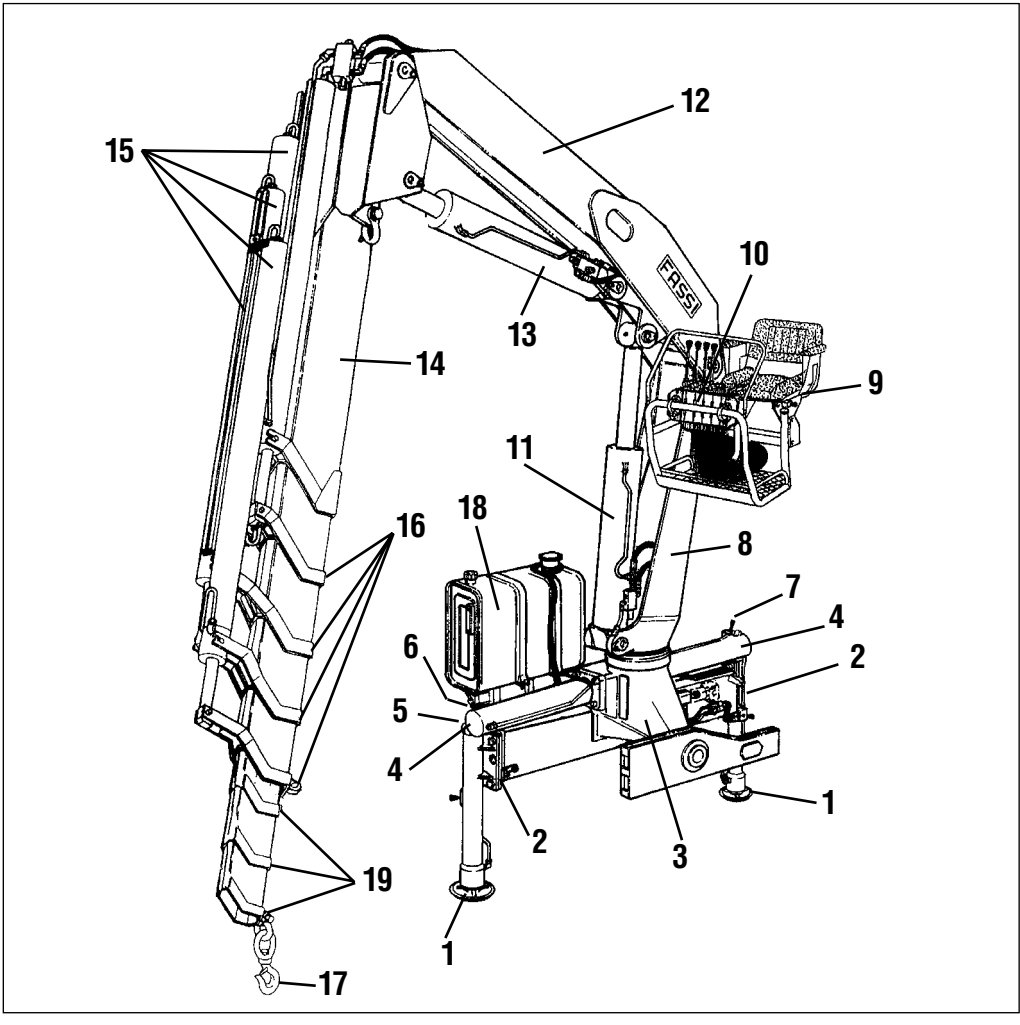

fig. 5
- Version with ground controls for outriggers and top seat controls for crane (fig. 5)